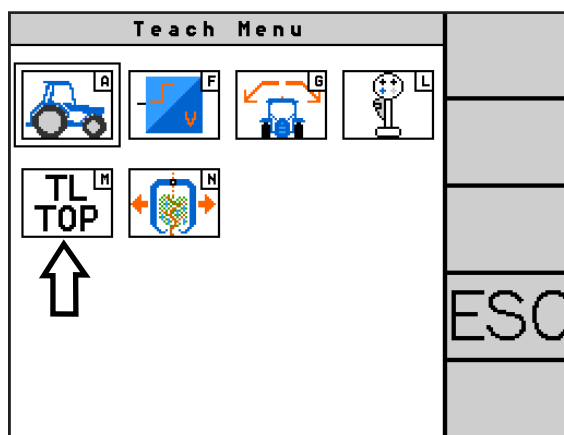

Fig. 78: Accessing TRACK-Leader TOP teaching
Select "TL TOP" (M) in the teach menu (see Fig. 78) to access the "Teach TRACK-Leader TOP" menu.